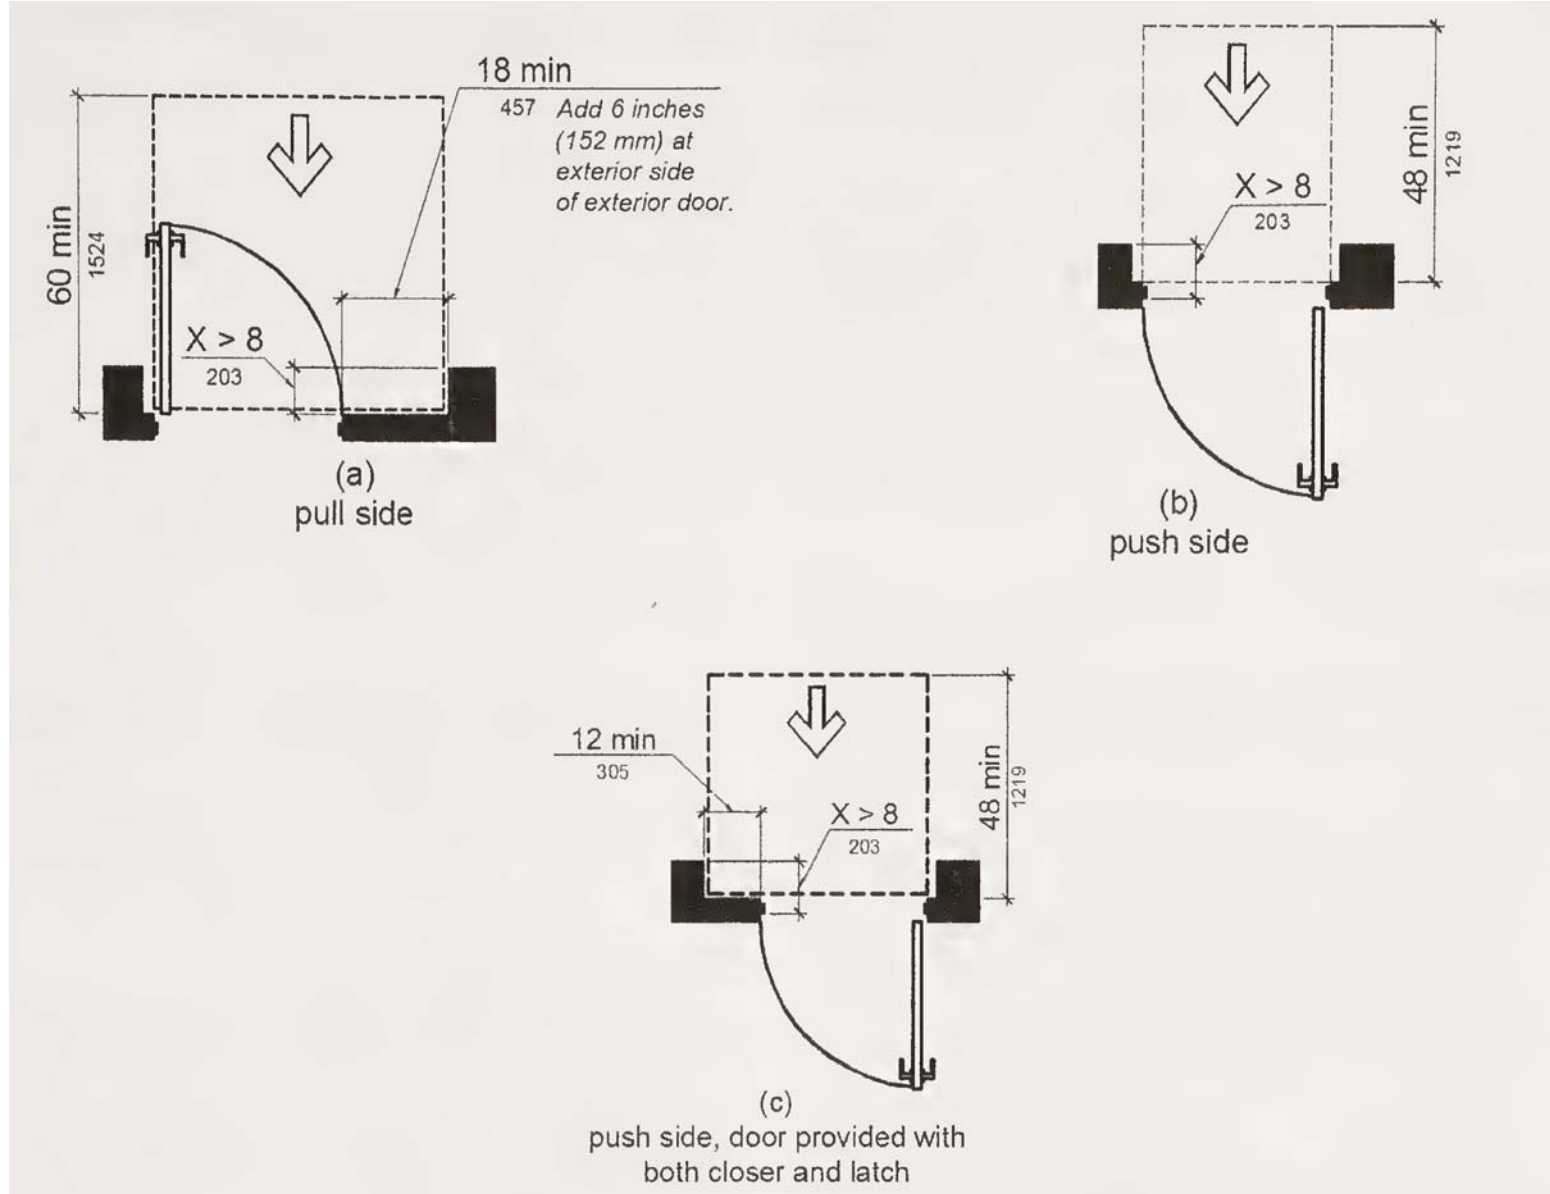

FIGURE 11B-404.2.4.3
11. ACCESS AISLES SHALL BE MARKED WITH A BLUE PAINTED BORDERLINE AROUND THEIR PERIMETER. THE AREA WITHIN THE BLUE BORDERLINES SHALL BE MARKED WITH HATCHED LINES A MAXIMUM OF 36 INCHES ON CENTER IN A COLOR CONTRASTING WITH THAT OF THE AISLE SURFACE, PREFERABLY BLUE OR WHITE. THE WORDS "NO PARKING" SHALL BE PAINTED ON THE SURFACE WITHIN EACH ACCESS AISLE IN WHITE LETTERS A MINIMUM OF 12 INCHES IN HEIGHT AND LOCATED TO BE VISIBLE FROM THE ADJACENT VEHICULAR WAY. ACCESS AISLE MARKINGS MAY EXTEND BEYOND THE MINIMUM REQUIRED LENGTH. §11B-502.3.3, FIGURE 11B-502.3.3
12. PARKING SPACE IDENTIFICATION SIGNS SHALL INCLUDE THE INTERNATIONAL SYMBOL OF ACCESSIBILITY (ISA) COMPLYING WITH SECTION 11B-703.7.2.1 ISA, §11B-502.6, FIGURE 11B-703.7.2.1